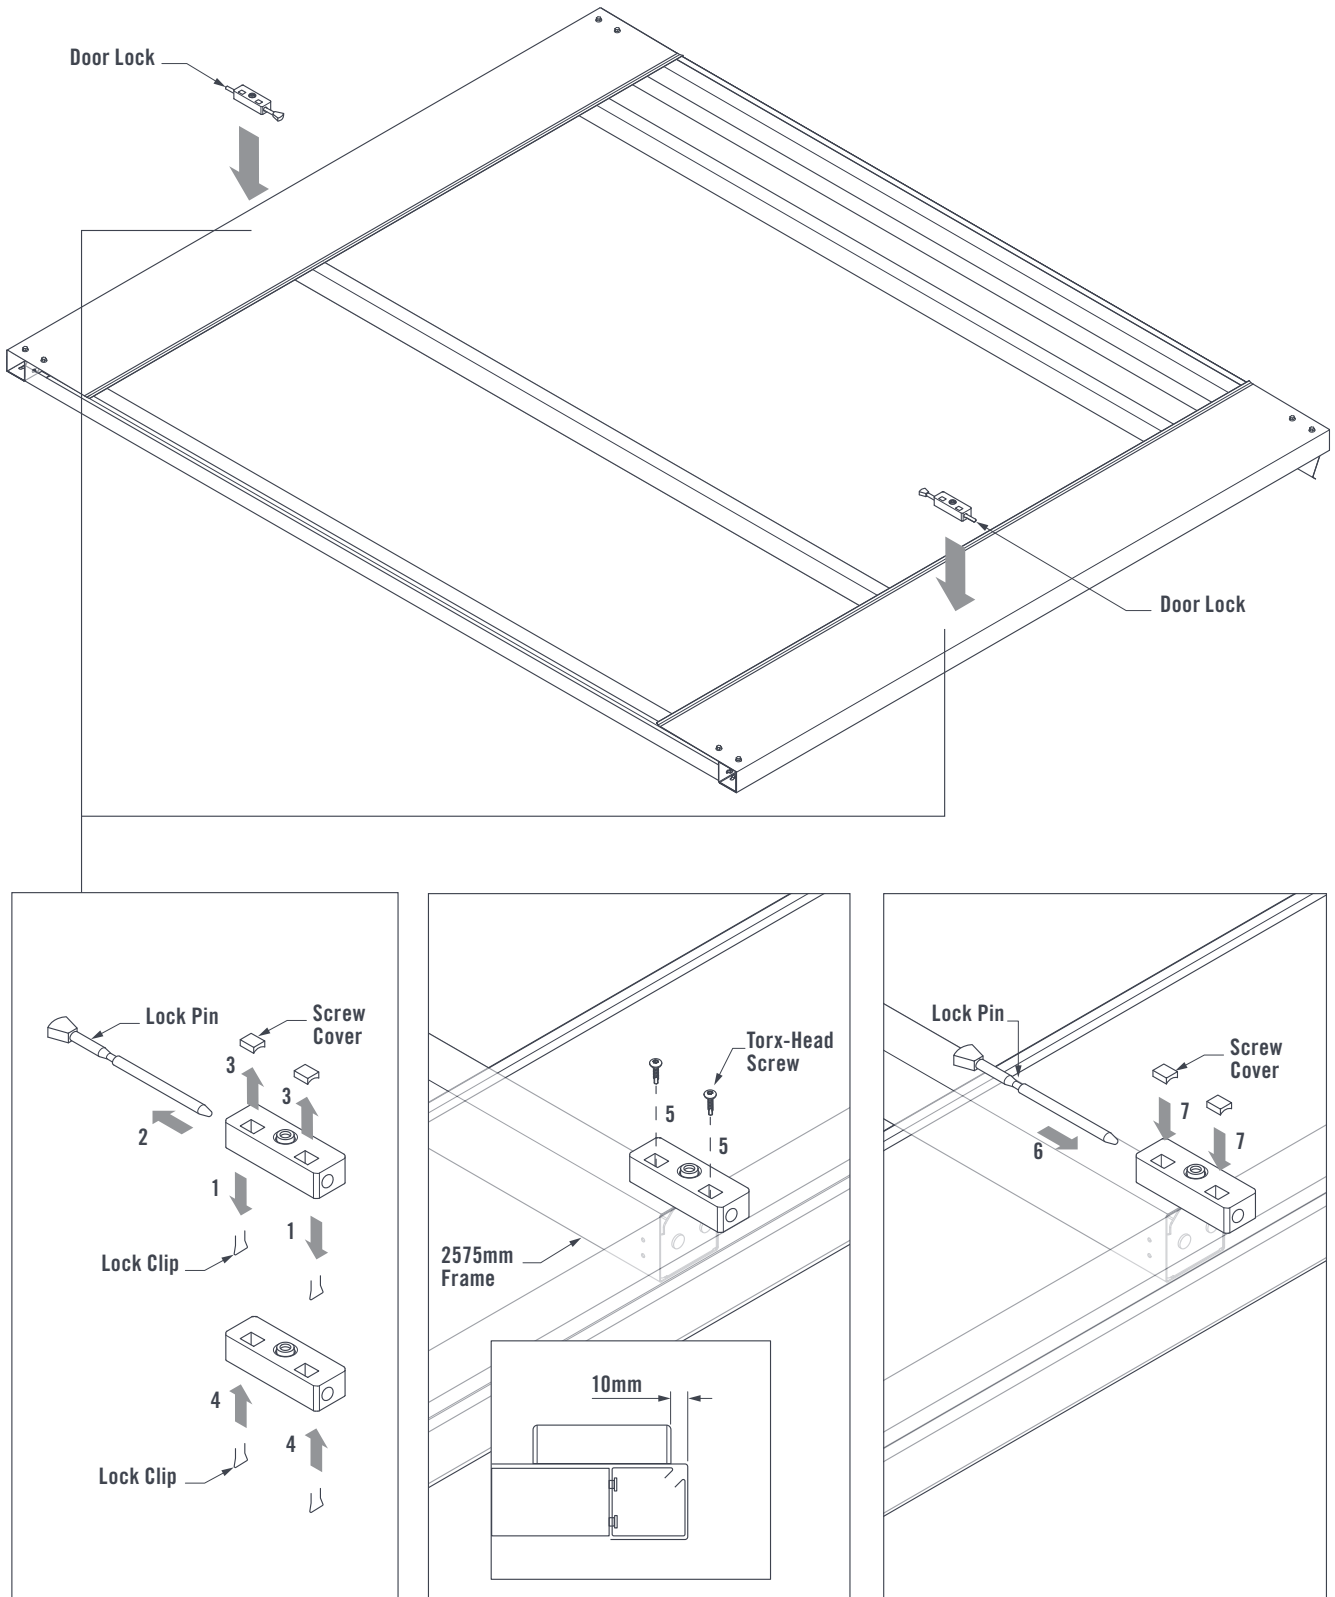

FIGURE 9.0
Remove the Lock Clips (1), Lock Pin (2) and Screw Covers (3). Reinstall the Lock Clips (4). Fit the two Door Locks onto the Door Assembly. Ensure the Door Locks are in-line with the 2575mm Frame and 10mm from the edge. Fasten the Door Locks to the Door Assembly using two Torx-Head Screws (5). Reinstall the Lock Pin (6) and Screw Cover (7) (Figure 9.0).